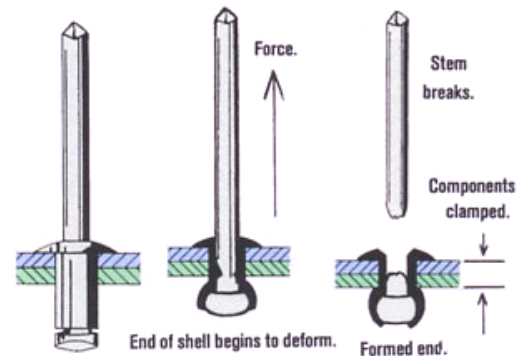

Figure 5a-1. The rivet is set by drawing the stem through the shell
- Withdrawing the stem is done with special tools operated by hand, pneumatics or electricity. Figure 5a-1 shows the stages of application.